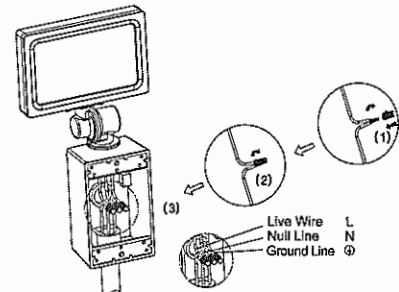

FIG. 1
5. Connect wires as follows: white wire to neutral; black wire to line 1; yellow/green wire to ground. (see fig 1)